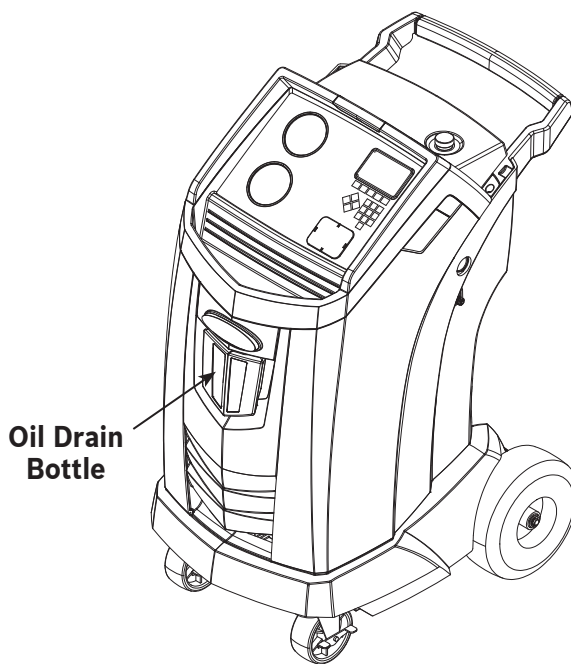

Figure 4
3. Remove the oil drain bottle (see Figure 4) from the Robinair machine. Drain the oil bottle, and dispose of the oil according to regulations in your area. Reinstall the oil drain bottle on the machine.